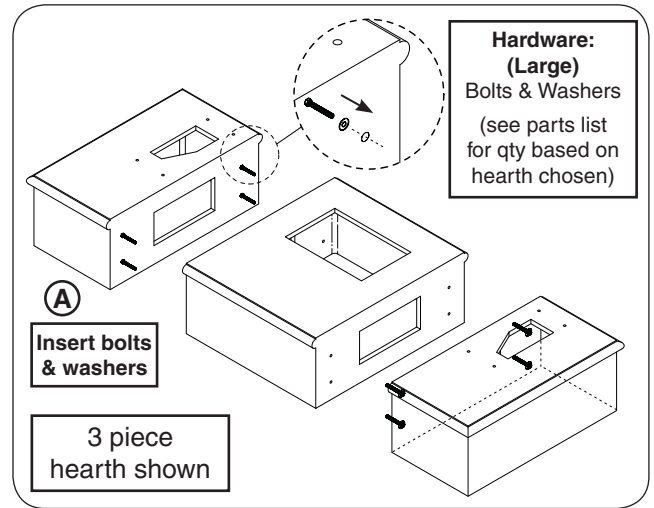

Fig. 16-1 Assemble hearth
2. Arrange the hearth pieces in their proper position. Then insert the bolts and washers (from large hardware kits) into the outer pieces of the hearth as shown in Fig. 16-1.